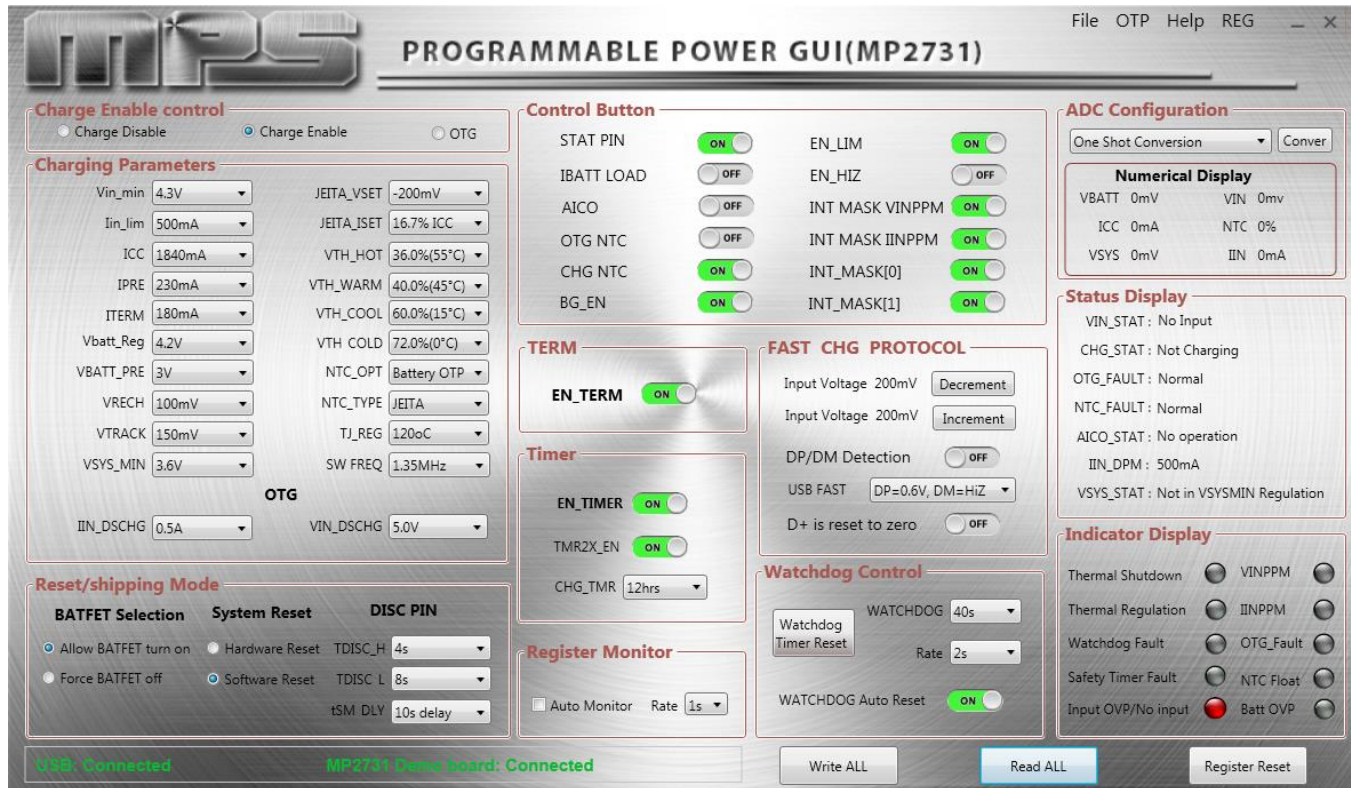

Figure 7: Connected USB and MP2731 Demo Board
- If the connection is successful, both the USB and MP2731 demo board statuses will be listed as “Connected” (see Figure 7).
2. Click the “Read All” button to read the I²C register values. The default values should be displayed (see Figure 7).